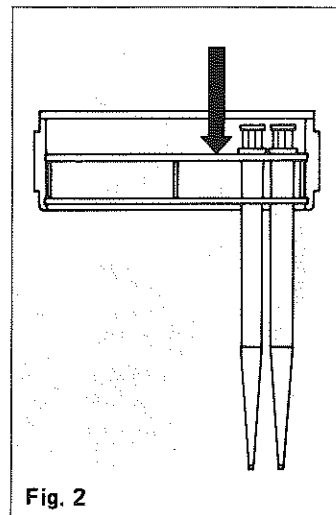

Fig. 2
1. Insert the syringes into the cartridge firmly. (Fig. 2)